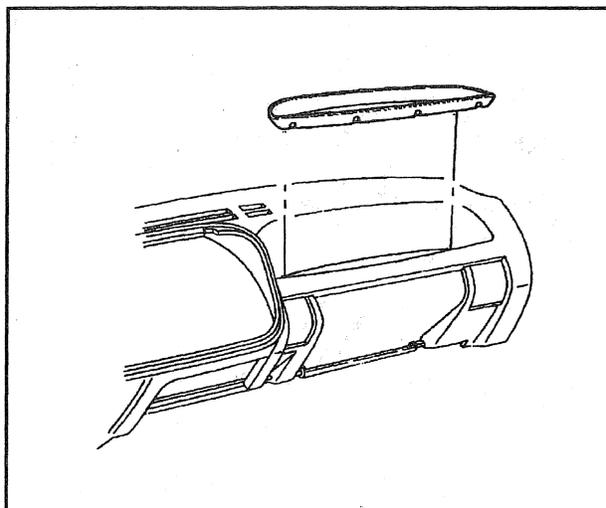

Figure 13—I/P Liner Assembly
16. I/P liner assembly (figure 13).